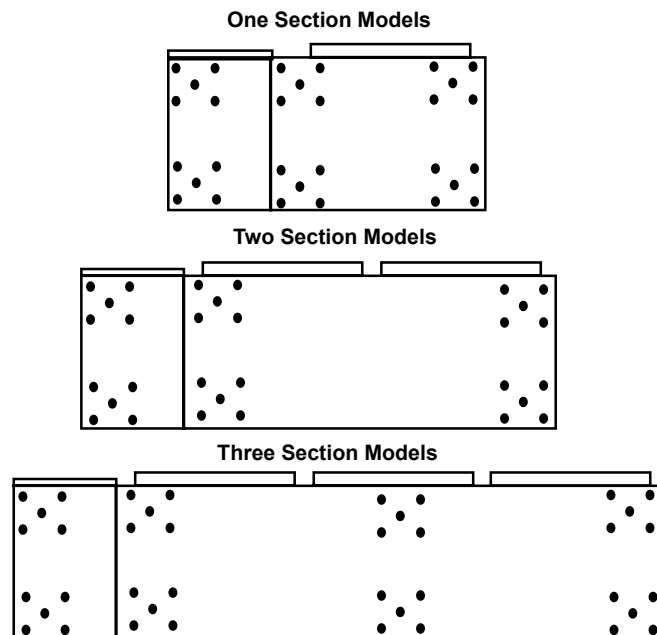

Fig. 1
6" high stainless steel legs are supplied standard for all Traulsen undercounter units. Casters in lieu of legs are available as an optional accessory for the same models. These are shipped from the factory packed inside two cardboard boxes which are strapped to one of the shelves. Remove the nylon straps and open the boxes, each should contain either four (4) legs or four (4) casters and sixteen (16) bolts (see figure 1 for proper locations).